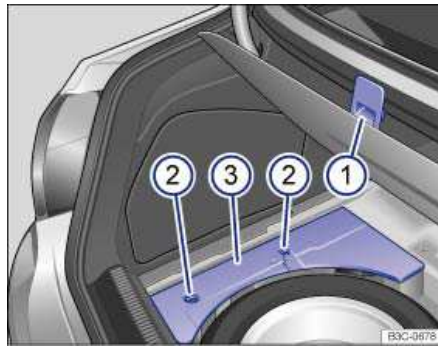

Fig. 184 In the luggage compartment underneath the floor panel 1: Spare tire and cover 3 for vehicle tool kit.
In a foam insert under the floor cover:	<ul style="list-style-type: none">– Secure the floor cover on the top edge of the luggage compartment ⇒ fig. 184 (1).– Rotate the quick-release fasteners (2) 90° to remove the cover (3) of the vehicle tool kit.